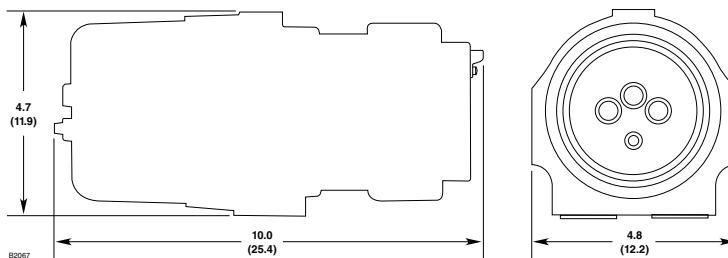

Figure 19—X3301 Dimensions in Inches (cm)
2. Loosen the two captive screws, then grasp the **oi** reflector plate by the visor and remove it from the detector. See Figure 19.